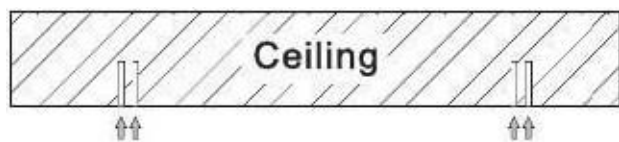

Fig.1
- Step 1: Drill 4 06mm holes on the ceiling with electric drill. (as Fig.1)